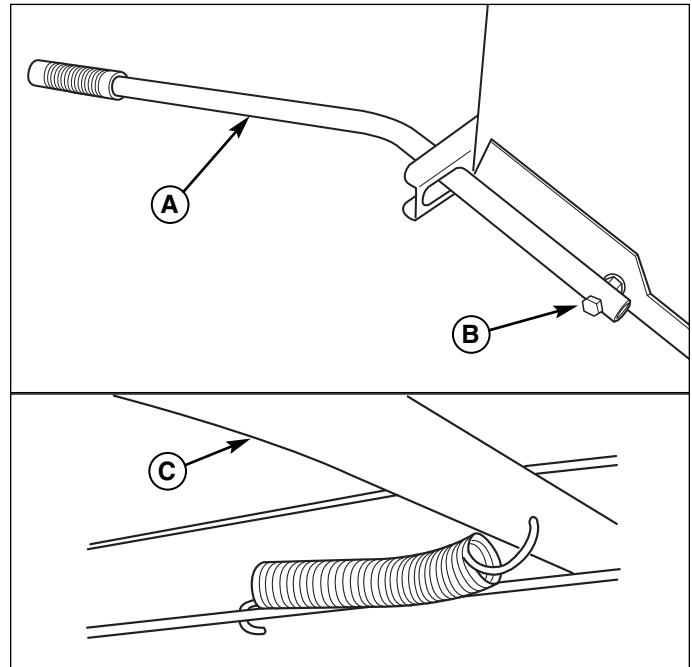

**Figure 29. Box Pivot Installation**
2. Install the pivot brackets (B, Figure 29) on the base pivot mount (A) in the position shown and secure with the carriage bolts and flange nuts.
3. Install the base pivot mount assembly onto the box frame in the holes previously drilled and secure with the carriage bolts and flange nuts (C).